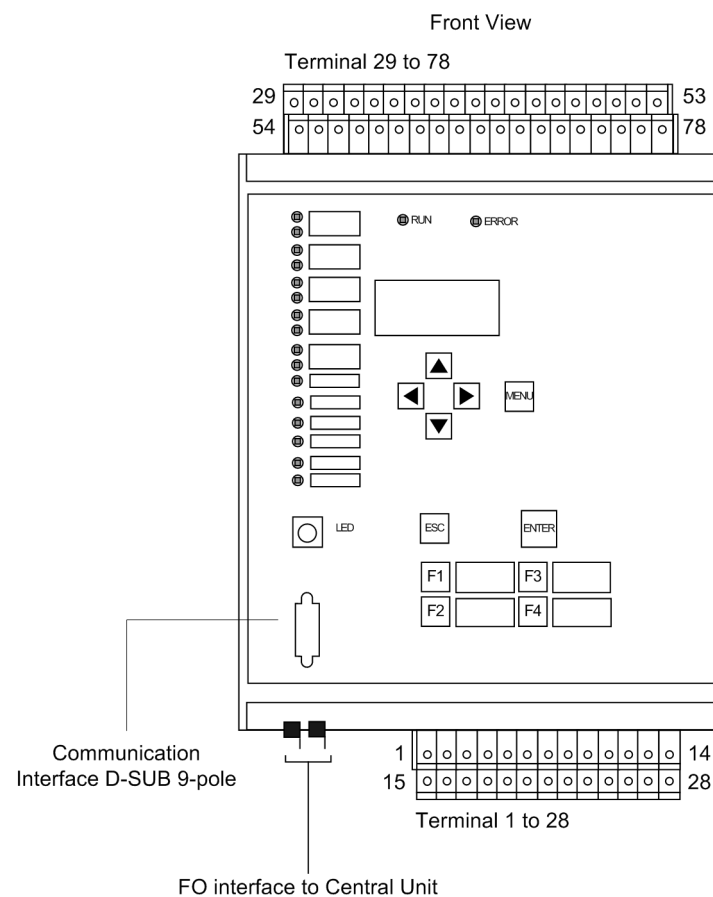
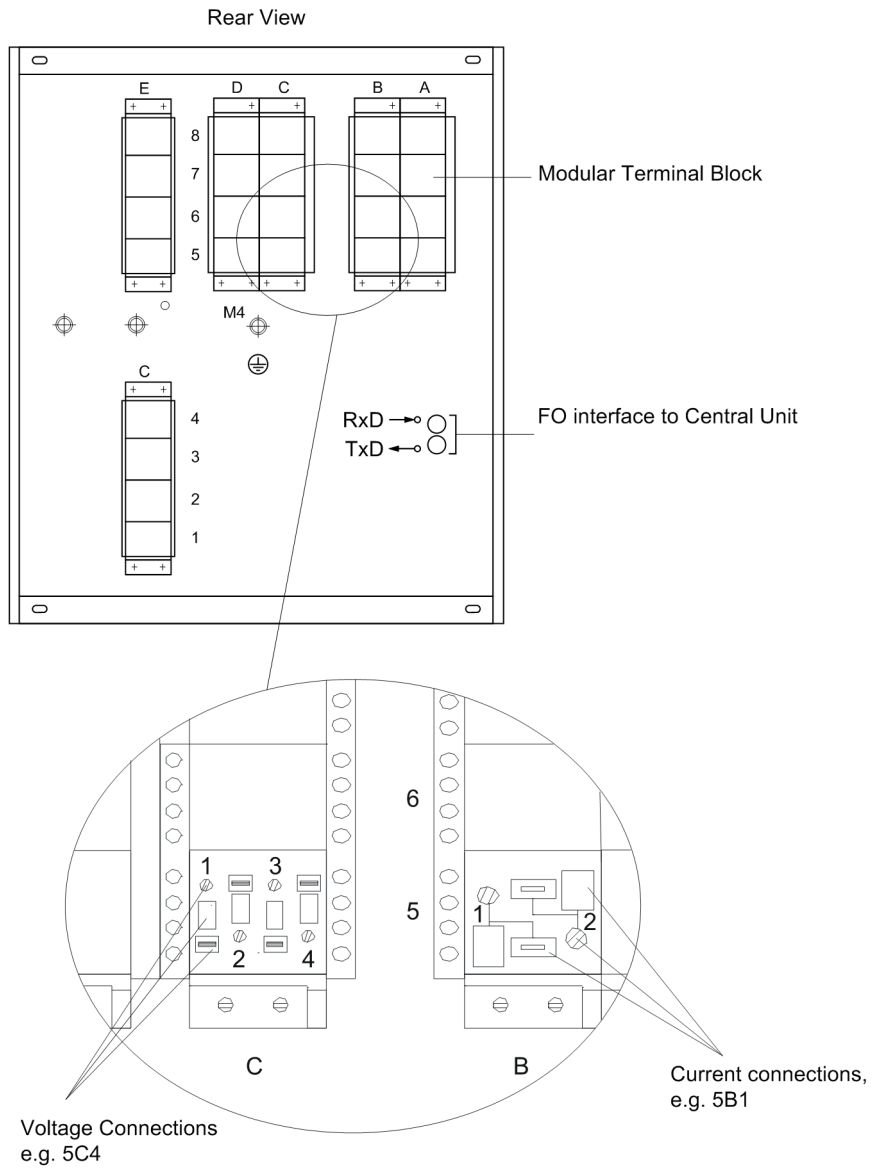

Figure 2-8 Device connections on bay unit 7SS523 for panel surface mounting
Figure 2-9 Device connections on bay unit for panel flush mounting or cubicle mounting
| Plug-in modules              | The plug-in modules are identified according to their position in a coordinate system. The connections inside a module are numbered consecutively from left to right (viewed from the rear), see example in Figure 2-9, page 44. |
- Plug-in modules**          The plug-in modules are identified according to their position in a coordinate system. The connections inside a module are numbered consecutively from left to right (viewed from the rear), see example in Figure 2-9, page 44.
All signals including the auxiliary voltage are connected to two-tier terminals. In each tier the terminals are numbered from left to right (Figure 2-8, page 43).
| Bay units         | <p>Depending on the mounting variant, the fiber-optic interface to the central unit is located on the bottom (Figure 2-8, page 43) or the rear (Figure 2-9, page 44) of the bay unit. For assignment of the connectors, please refer to Figure A-4, page 377 in the Appendix.</p>   |                               |